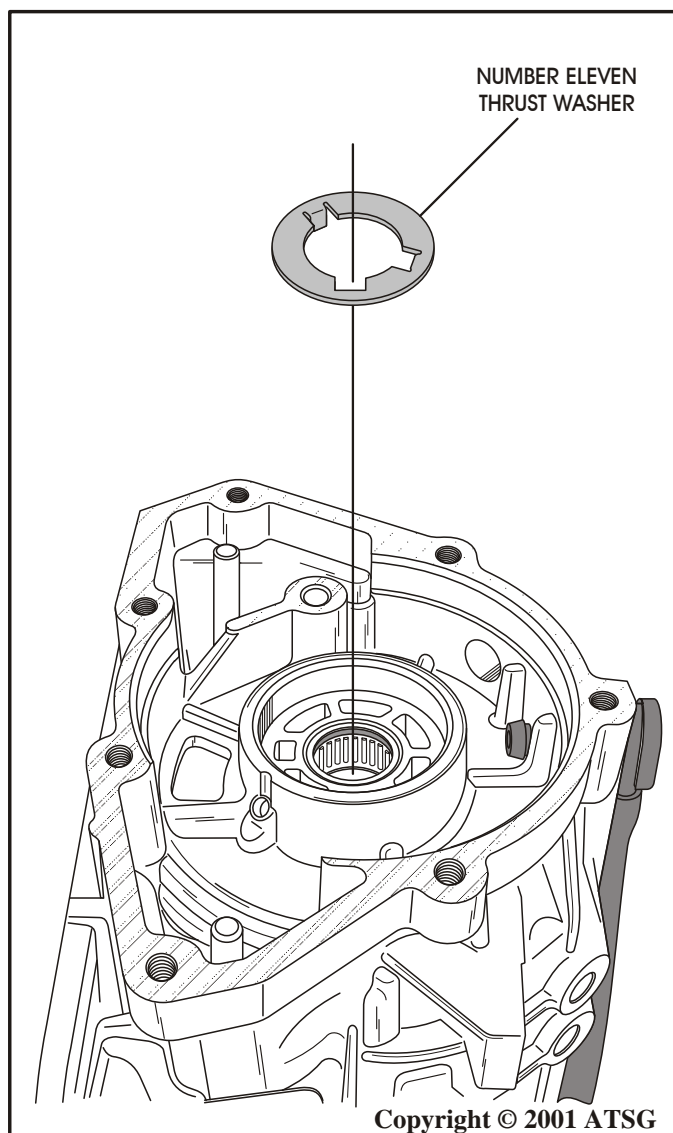

Figure 130
5. Install the number 11 thrust washer into rear of case, as shown in Figure 130, and retain with a small amount of Trans-Jel®.